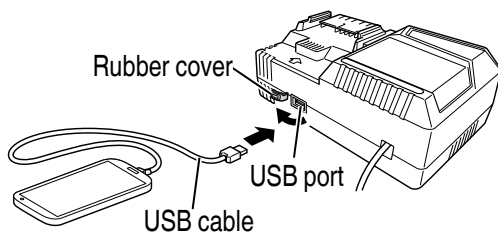

Fig. 8
- (2) Connect the USB cable. **(Fig. 8)**